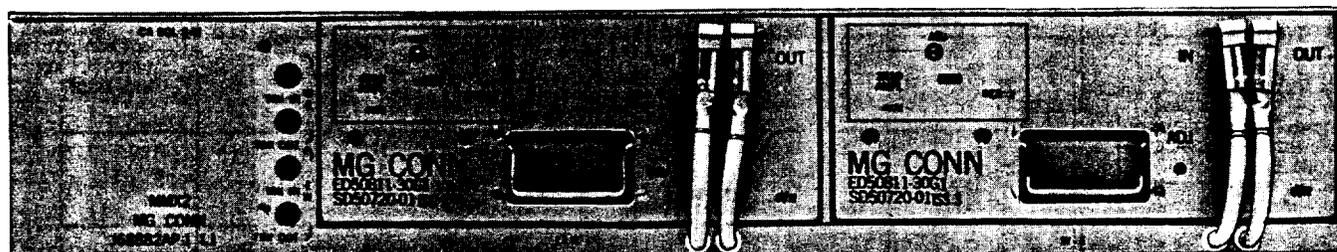

Fig. 1—Mastergroup Connector J68882AP
1.02 This section is reissued to correct errors, to expand the explanations, and to include a later photograph of the mastergroup connector (Fig. 1). Arrows are used to indicate significant changes.
2.01 The mastergroup connector (Fig. 1) is a shelf assembly designed for mounting in a standard 23-inch bay. The assembly measures approximately 4 inches high by 21.5 inches wide by 15 inches deep and weighs approximately 31 pounds. The main shelf assembly contains cable equalizers, input and output connections, and mounting facilities for the two plug-in modules that contain the active circuits for the two directions of transmission.